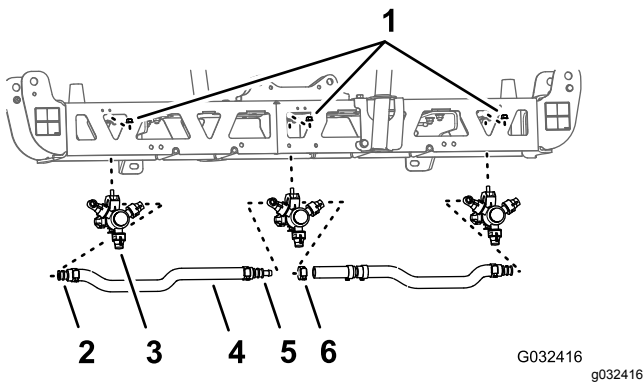
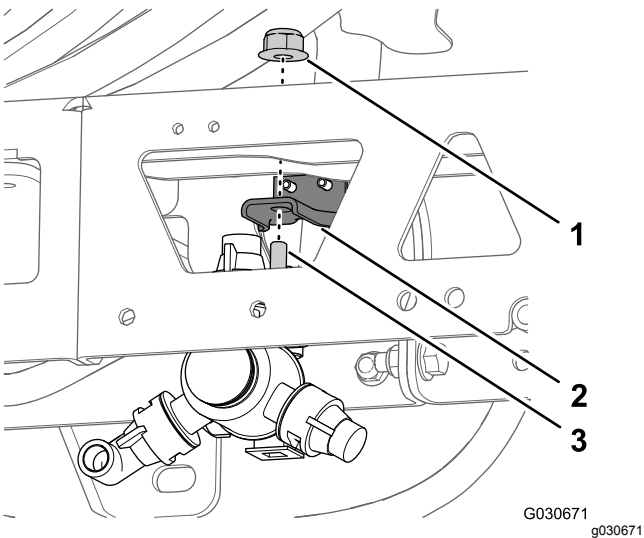

Figure 48
Figure 49
- 1. At the center-spray section, remove the flanged locknut that secures the sprayer nozzle to the nozzle mount (Figure 48 and Figure 49).
- Remove the nozzle from the center-spray section (Figure 48 and Figure 49).
- Remove the hoses (3/4 inch inside diameter), barbed-hose shanks, clamps and barbed T-fitting from the center-spray section (Figure 48).